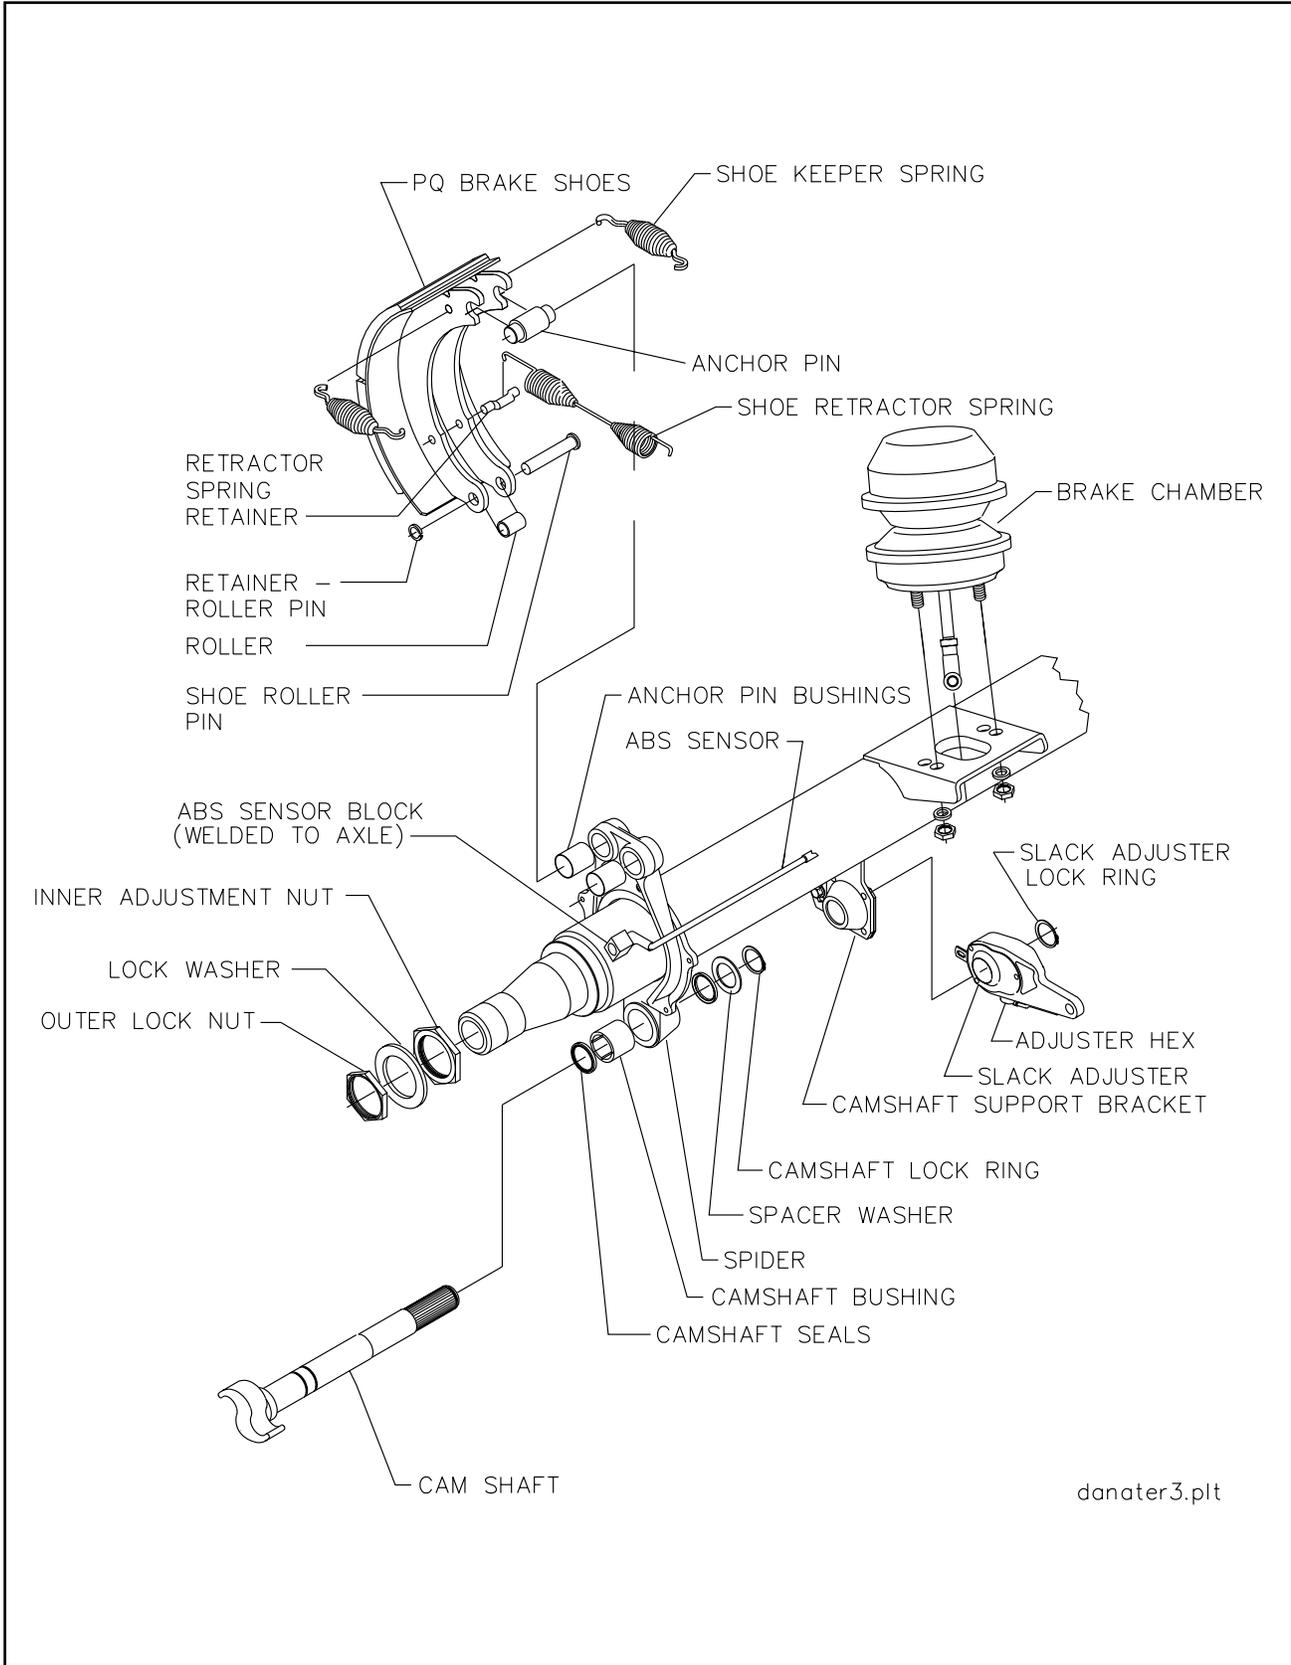

Figure 4-10 Axle and Brake Assembly
b. Disassembly for 16-1/2" x 7" Brakes (See Figure 4-10).
c. Reassembly for 16-1/2 x 7" Brakes (See Figure 4-10).